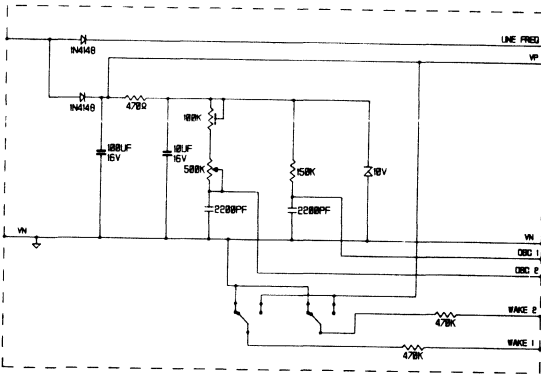

Fig. 8 POWER SUPPLY INTERFACE WITHOUT STANDBY
- 1. Without battery standby facility Fig.8